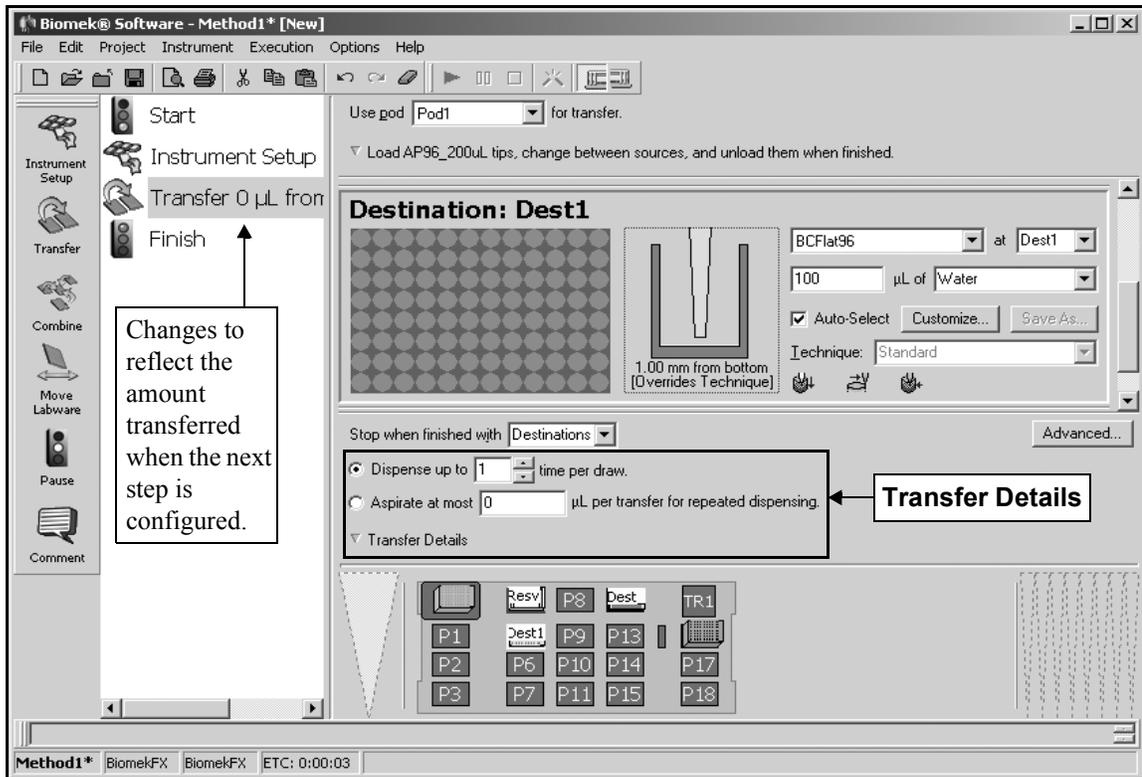

Figure 2-10. Transfer step with Destination configured
5. Set the dispense height in the large tip illustration to **1.00 mm from bottom**, using the same technique as you used for setting the aspirate height. The destination labware is now configured, and the editor looks like (Figure 2-10).